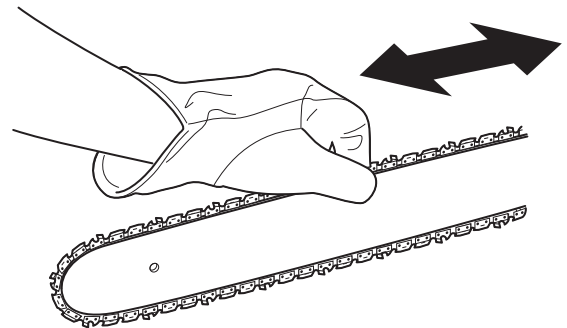

Fig. 26
3. Hold the guide bar tip up and move the saw chain back and forth along the guide bar (Fig. 26). Make sure the saw chain moves freely and is in proper mesh with the sprocket. If the saw chain does not move easily, slowly turn the chain-tensioning knob counterclockwise to loosen the saw chain.